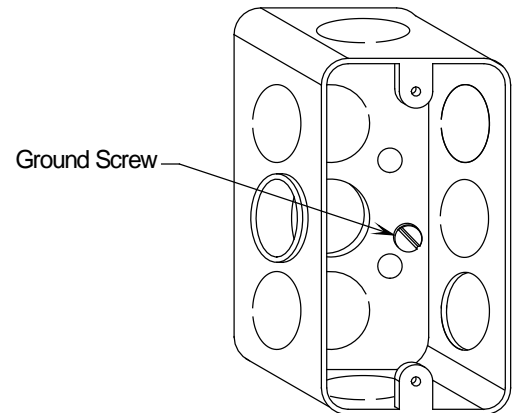

Figure 38
2. The electrician should connect one power hot lead (black) to the power cut off switch mounted inside the junction box. Utilizing an appropriate wire nut, the electrician should connect the common lead (white) to the loose common lead (white) found inside the junction box. The ground wire should be connected to the ground screw located in the bottom of the switch junction box. (See Figure 38)